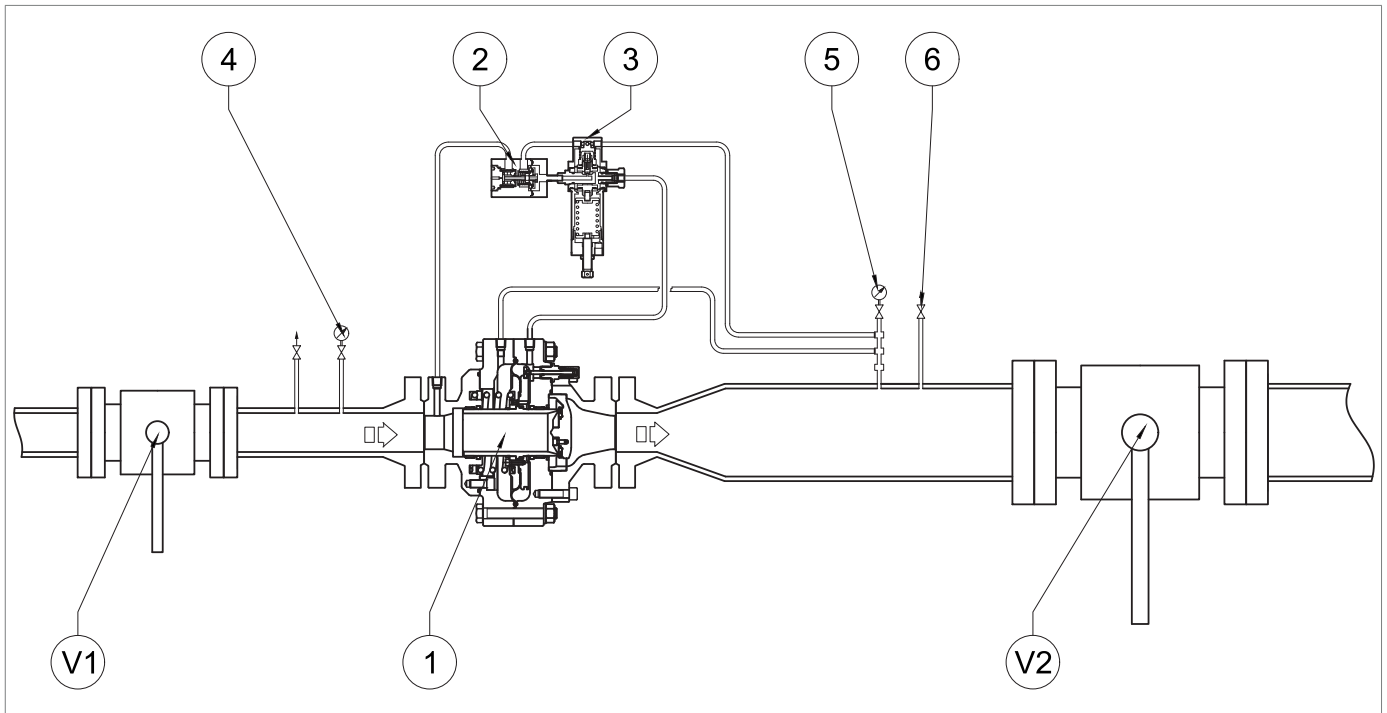

Fig. 8.24.
1	<p>! NOTICE!</p> <p>Check the pressure referring to the pressure gauge (Fig. 8.24, ref. 5) downstream of the main regulator. If the slam-shut valve:</p> <ul style="list-style-type: none"> trips before the expected pressure value: screw in (clockwise) the adjustment ring nut (13) so as to further compress the spring (11); does not trip at the expected pressure value: unscrew (anti-clockwise) the adjustment ring nut (13) so as to relieve the spring (11).
2	Decrease the pressure in the downstream section by opening the vent (Fig. 8.24, ref. 6) to bring it up to the calibration value of the main regulator.
3	Close the vent (Fig. 8.24,, ref. 6).
1	Open the vent (Fig. 8.24, ref. 6) to the atmosphere and keep it open for the next steps.
2	<p>Decrease the downstream pressure to the minimum tripping pressure of the slam-shut device by adjusting the pilot.</p> <div style="border: 1px solid blue; padding: 5px;"> <p>! NOTICE!</p> <p>Check the pressure referring to the downstream pressure gauge (Fig. 8.24, ref. 5).</p> <p>If the slam-shut valve:</p> <ul style="list-style-type: none"> • trips before the expected pressure value: unscrew (anti-clockwise) the adjustment ring nut (15) so as to relieve the spring (17); • does not trip before the expected pressure value, screw in (clockwise) the adjustment ring nut (15) so as to further compress the spring (17). </div>